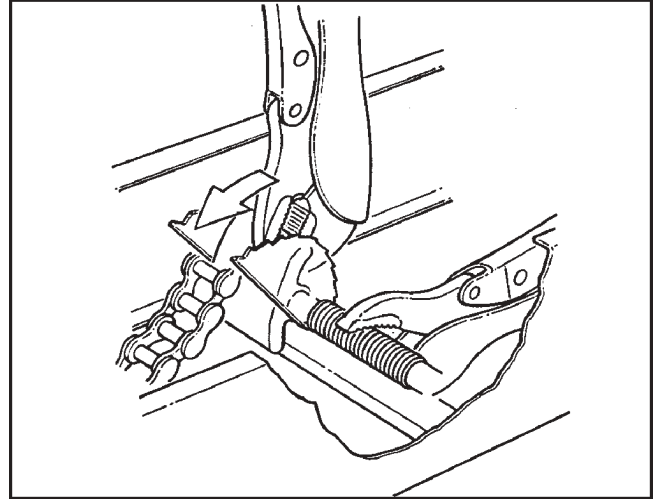

Figure 7-13. Prying the Slider Block off the Cam Assembly.
3. With pliers, pry the slider block off the cam assembly as illustrated in Figure 7-13.